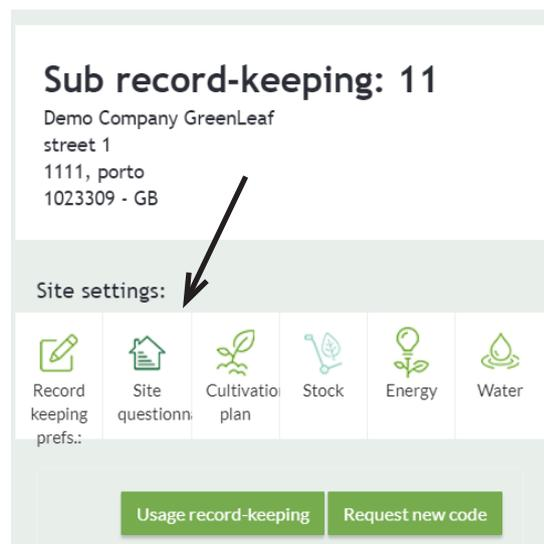

Figure 1
6. Now click on '**Sites**'. You will find your sub-records on this page. For each sub-record, enter your record-keeping preferences and complete the site questionnaire (see figure 1).